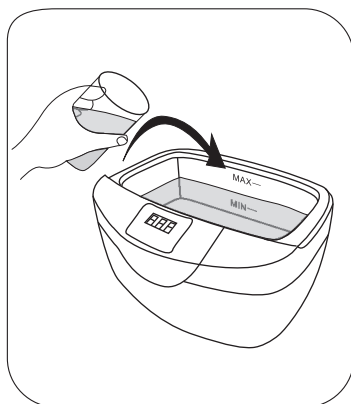

Fig. 8
- 1► Pour preferably **filtered water** up to the maximum level of 2,1 liters indicated on the vat **MAX** (Fig. 8).